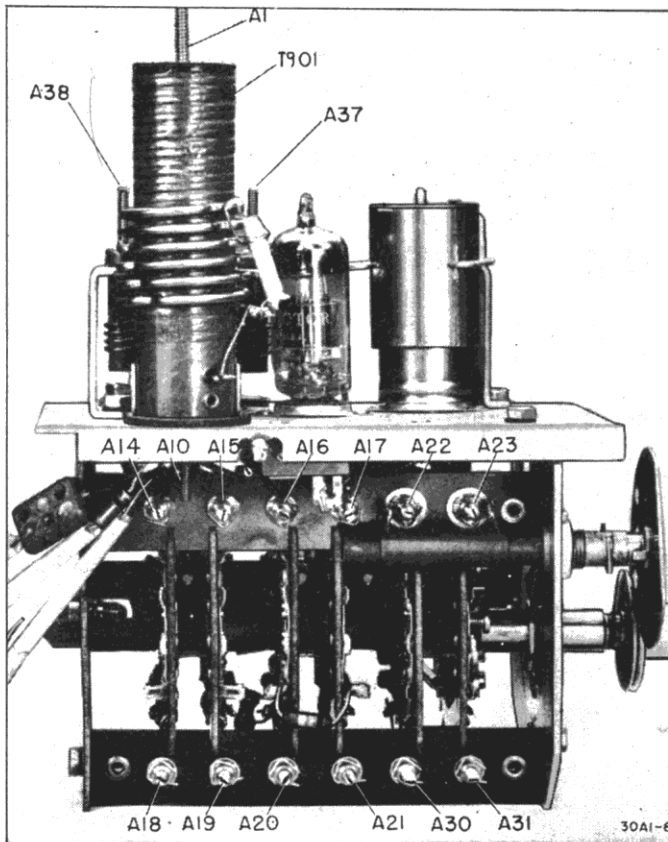

Fig. 3-6. TV Tuner A1582, Left Side.
(For sets with A1582 tuner only; see figure 3-6.)
- See figure 3-6 for location of RF and Mixer adjustments.
In the event that FM interference; or inter-channel interference of the type described above, is experienced; set the television receiver for reception of the station that is being interfered with. Adjust trap adjustments A37 and A38 (Figures 3-6, 3-1) for minimum interference.
(For chassis with type A1582 RF tuner only; see Figure 3-6.)
Due to the prevalence of FM interference on some television channels, an interference rejection trap is mounted on top of RF tuner A1582 as shown in figures 3-6 and 3-7. It covers the frequency range from 93 to 109 MC.
(For sets with A1582 tuner only; see figure 3-6).
- See Figures 3-6 and 3-8 for location of adjustments.
(For sets with A1582 tuner only; see fig. 3-6)
- d. Using a NON-METALLIC screwdriver (with 1/8" blade), tune slugs or screw adjustments for best sound. Refer to tabulation above and illustration figures 3-6 and 3-8 for adjustment data and location of adjustments.